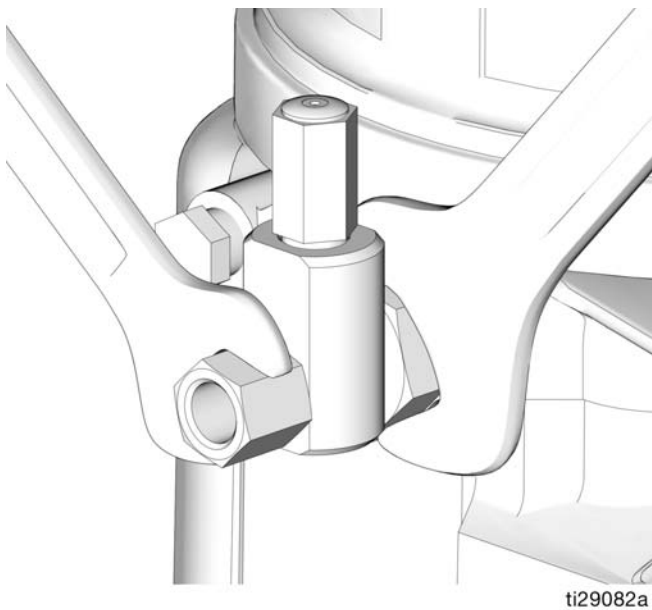

FIG. 25
1. Loosen pump element fitting (FIG. 25).
3. Tighten pump element fitting using two wrenches working in opposite directions (FIG. 25).